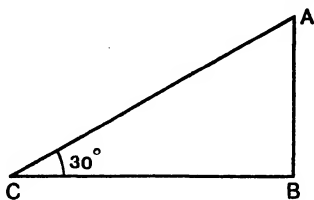

FIG. 99.  $\text{COSINE } 30^\circ = \frac{CB}{CA}$
**I. Introduction.**—Cosine may be introduced by further study of similar, right-angled, triangles, Fig. 99. As a rule, little